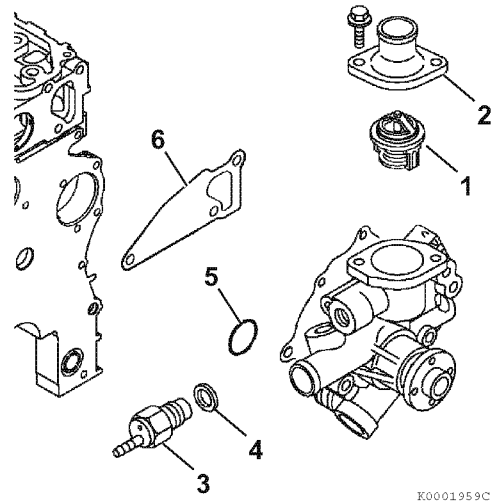

Figure 8-9
1. Reinstall the thermostat (**Figure 8-9, (1)**).
2. Reinstall the thermostat cover (**Figure 8-9, (2)**). Tighten the thermostat cover bolts.
3. Reinstall the temperature switch (**Figure 8-9, (3)**) and a new gasket (**Figure 8-9, (4)**).
4. Position the engine coolant pump on the engine and install a new gasket (**Figure 8-9, (6)**). Use a new special O-ring (**Figure 8-9, (5)**) on assembly between the engine coolant pump and the joint.